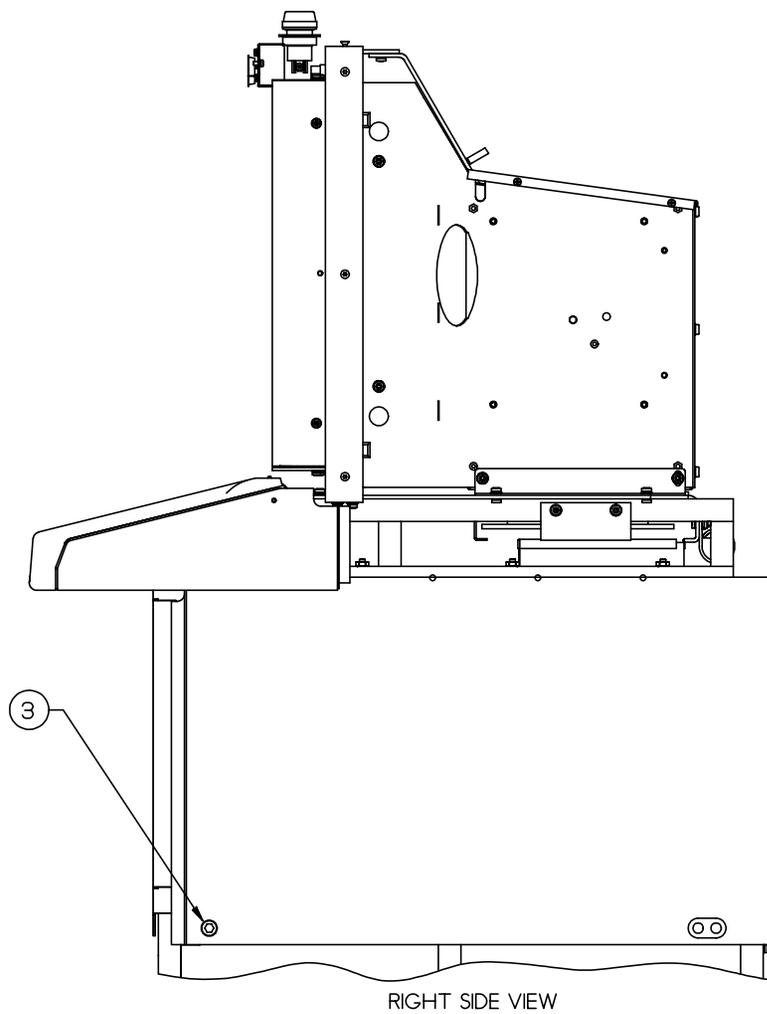

Figure 19
3. Locate the flat-head hex screw at the lower-front corner of the upper-right side cover. See Figure 19 (next page).